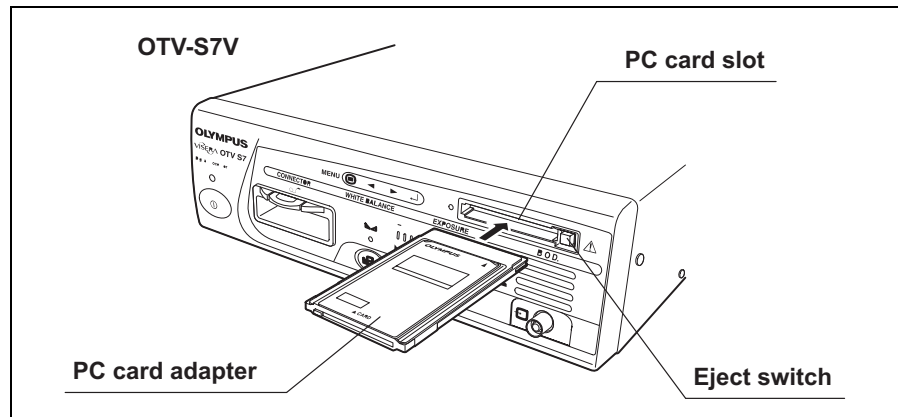

Figure 3.19
2. Insert the PC card adapter (MA-2E, MAPC-10) into the OTV-S7V's PC card slot until it stops (see Figure 3.19).